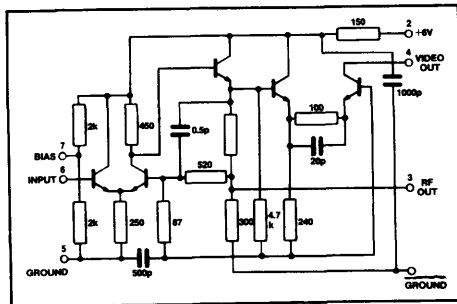

Fig.2 Circuit diagram
5. The gain may be increased from the value of Fig. 2 (26dB nominal) by increasing  $R_c$ , the gain increase being given by: